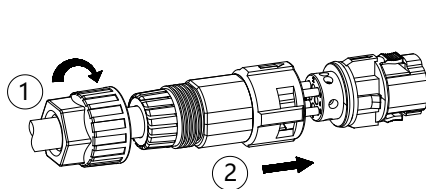

FIG.6 Assembling the Connector
4) Tighten the pressure nut, and then push the threaded sleeve into the plug, as per FIG.6.